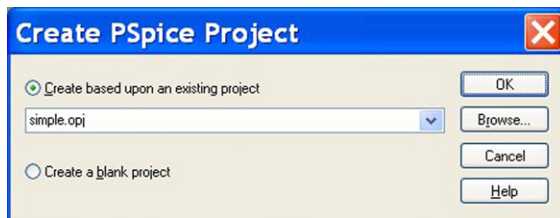

FIGURE 1.17
2. In the **Create PSpice Project** window, select **simple.opj** as shown in Figure 1.17 and click on **OK**.